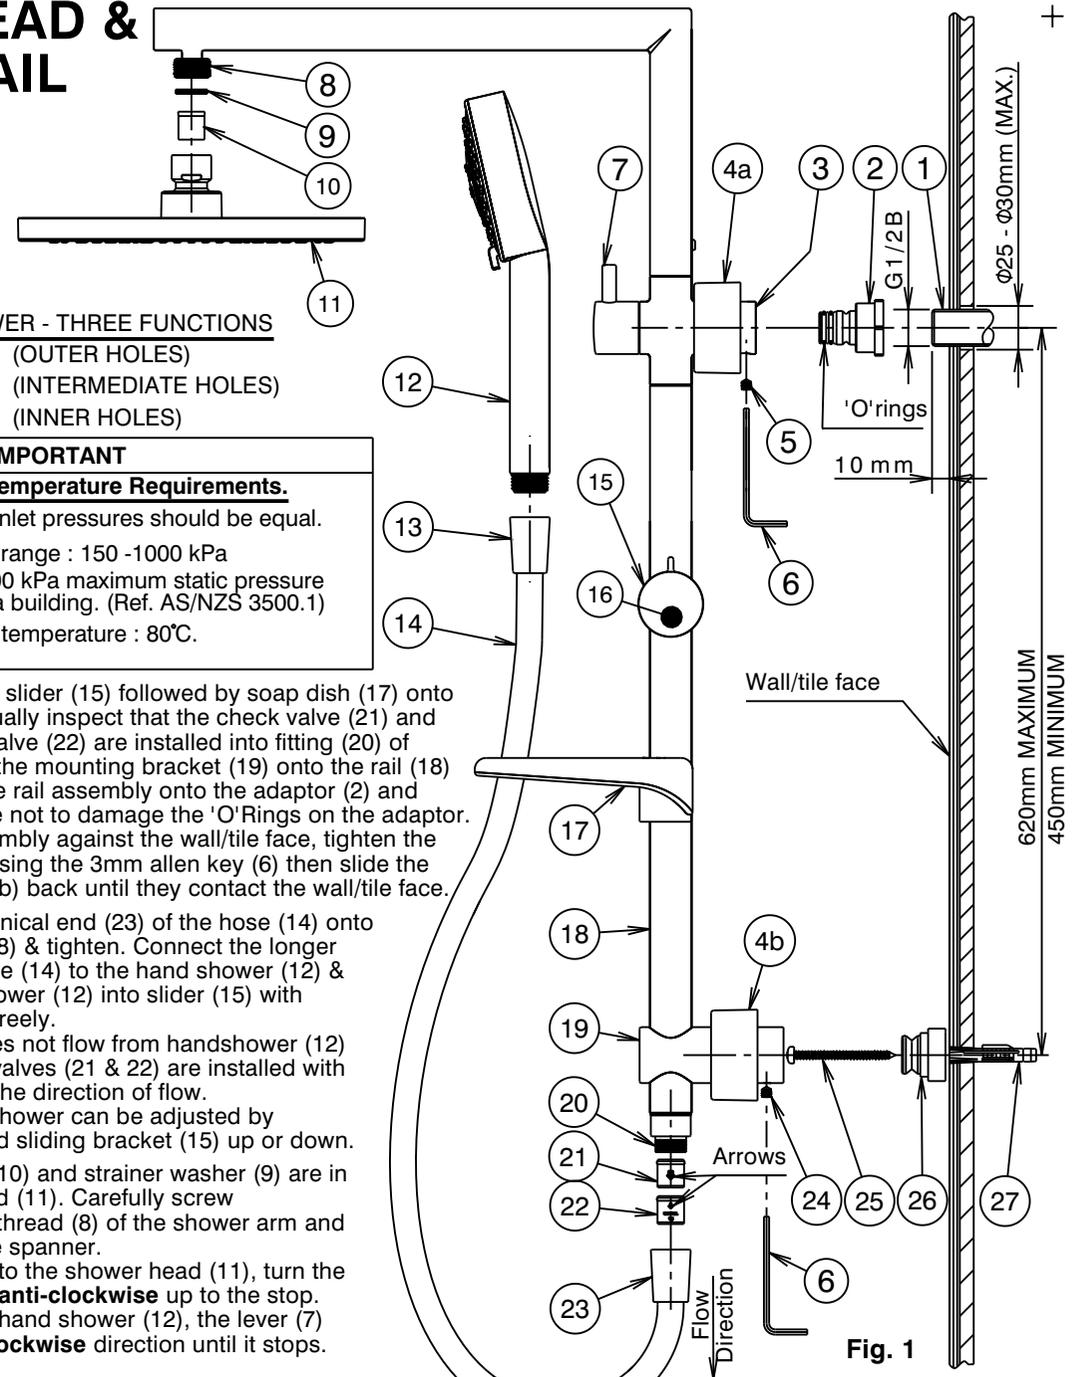

Fig. 1
- 1) Check that threaded nipple (1) is the correct length as shown. Cut to length if required ensuring end face is square. Apply thread tape to the thread.
- 2) Fit chrome cover (4a) onto diverter (3) then loosen grub screw (5) using 3mm allen key (6) & remove inlet adaptor (2) from diverter (3). Screw inlet adaptor (2) onto threaded nipple (1) & tighten until its back face has bottomed against the wall/tile face. DO NOT OVERTIGHTEN.
- 3) Mark the position for the shower rail mounting base (19) at a suitable distance from the threaded nipple (1). (Fig.1)
- ii) Insert small end of wall plug (27) into drilled hole and tap until flush with surface.**CAVITY WALLS:-** (Villaboard/tile etc)
- ii) Insert small end of wall plug (27) into drilled hole and tap until flush with surface.
- 5) Fit chrome cover (4b) onto mounting bracket (19) then loosen grub screw (24) using 3mm allen key (6) & remove spigot (26) from mounting bracket (19). Pass the screw (25) through the hole in the spigot (26) as shown. Assemble screw (25) into wall plug (27) and tighten until spigot (26) is mounted securely against the wall/tile face.